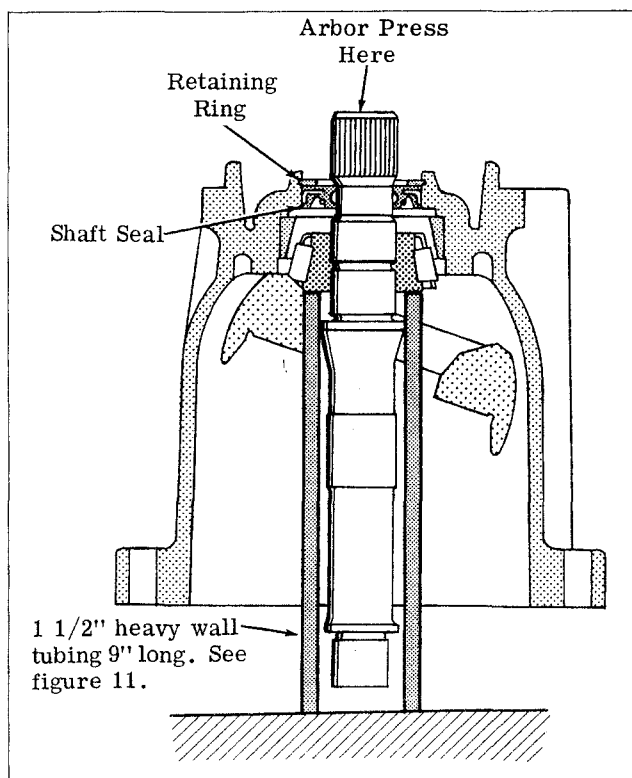
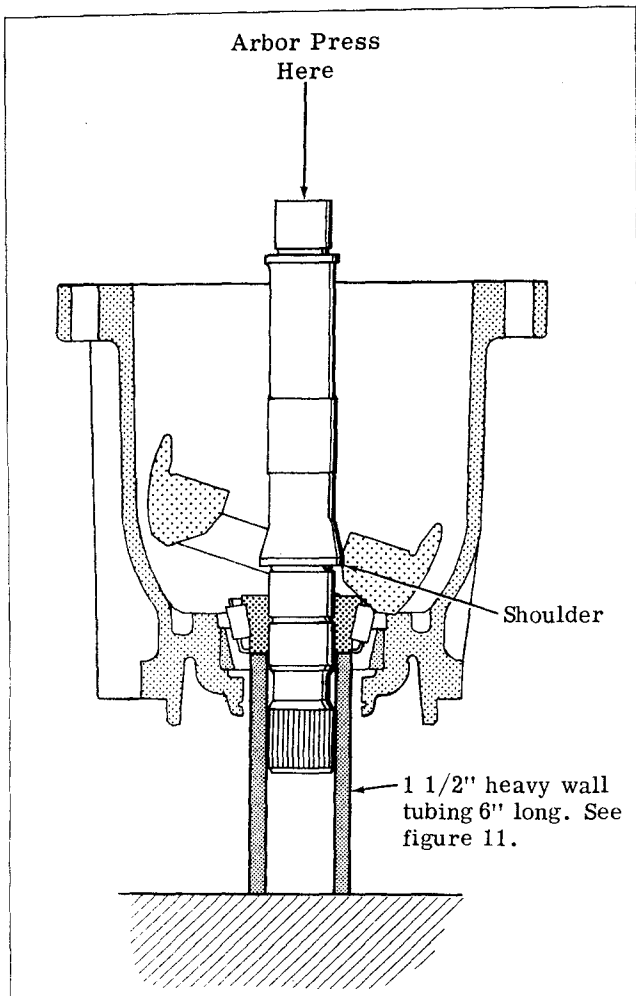

Figure 17. Front Bearing Removal.
Figure 18. Front Bearing Installation.
20. Remove and replace shaft seal (42) located within housing (27) as follows: (Refer to Figure 17.)
a. Install a nine inch piece of 1½" heavy wall tubing over drive shaft (48) within the housing. The end of the tubing will rest against the inner race of tapered roller bearing (61) and extend out beyond the end of the pump housing. Place the complete unit with tubing into an arbor press with drive spline up. Press the drive shaft through the bearing and out of the unit. A 0.001 press exists between the shaft and bearing so considerable force is required to remove the bearing. See Figure 17 (PVE19/21).
b. Remove retaining ring (44) and pull shaft seal (45) from housing (27). Be careful not to damage the aluminum die cast housing in the seal area.
c. Press drive shaft (48) into shaft bearing (61) as follows: Use a short piece of 1½" inch heavy wall tubing (approximately 6" long) over the drive spline of the shaft. The tubing must be long enough to go through the shaft seal end of the pump and make contact with the inner race of the front bearing. Press the shaft through the bearing with an arbor press until the bearing bottoms against the shoulder of the shaft (snap ring on the PVE12). See Figure 18.